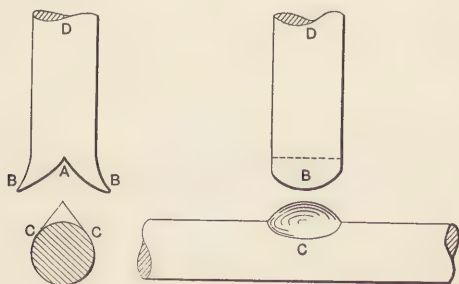

Fig. 50. Cleft Weld.
**Cleft Weld.**—In Fig. 50 is an end and a side view of a cleft or T-weld made with round stock. It is important to make it as strong as possible at the center *A*, in order to make a good weld, so we first stick lips *B B* to the lower bar at points *C C*. One must strike a few heavy, rapid blows on top of part *D*, to drive out the slag. If slag is not removed we cannot get a good weld of any kind. Bulge *C* is made by using the ball pene of the hammer, if the piece to be welded is small. If it is a large piece a ball pene top tool is used and the metal worked out from the bar gradually.